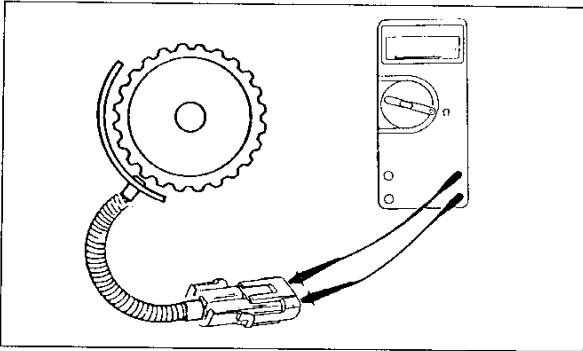

FIG. 1.1.40
**Correction:** Disconnect Weather Pack connector from Jacobs control module. Measure the resistance between the two wires from the tach sender (Fig. 1.1.40). An acceptable reading will be from 50 to 300 ohms. The Motorola 7EP2033 or Volvo/White 13603-0013 will read between 245 - 255 ohms. Readings outside this range indicate a short circuit or broken wires.